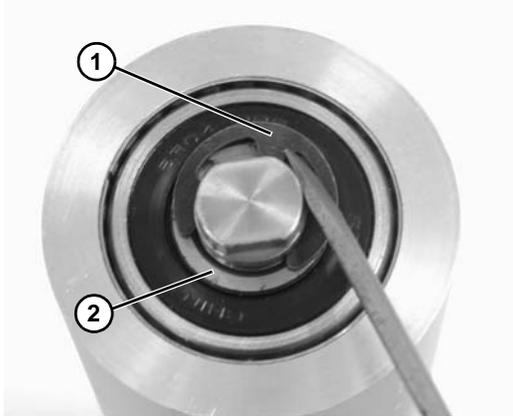

Figure 113
6. Remove the pulley shaft assembly: remove the clip ring (Figure 113, item 1) and washer (Figure 113, item 2) from one side of the pulley assembly.